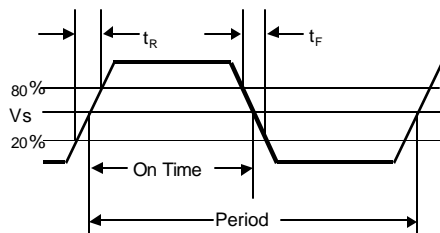
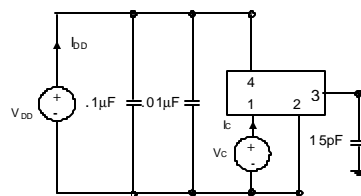

Figure 7. Output Waveform
Figure 8. Typical Output Test Conditions (25±5°C)
2. Figure 7 defines these parameters. Figure 8 illustrates the operating conditions under which parameters are tested/specified.